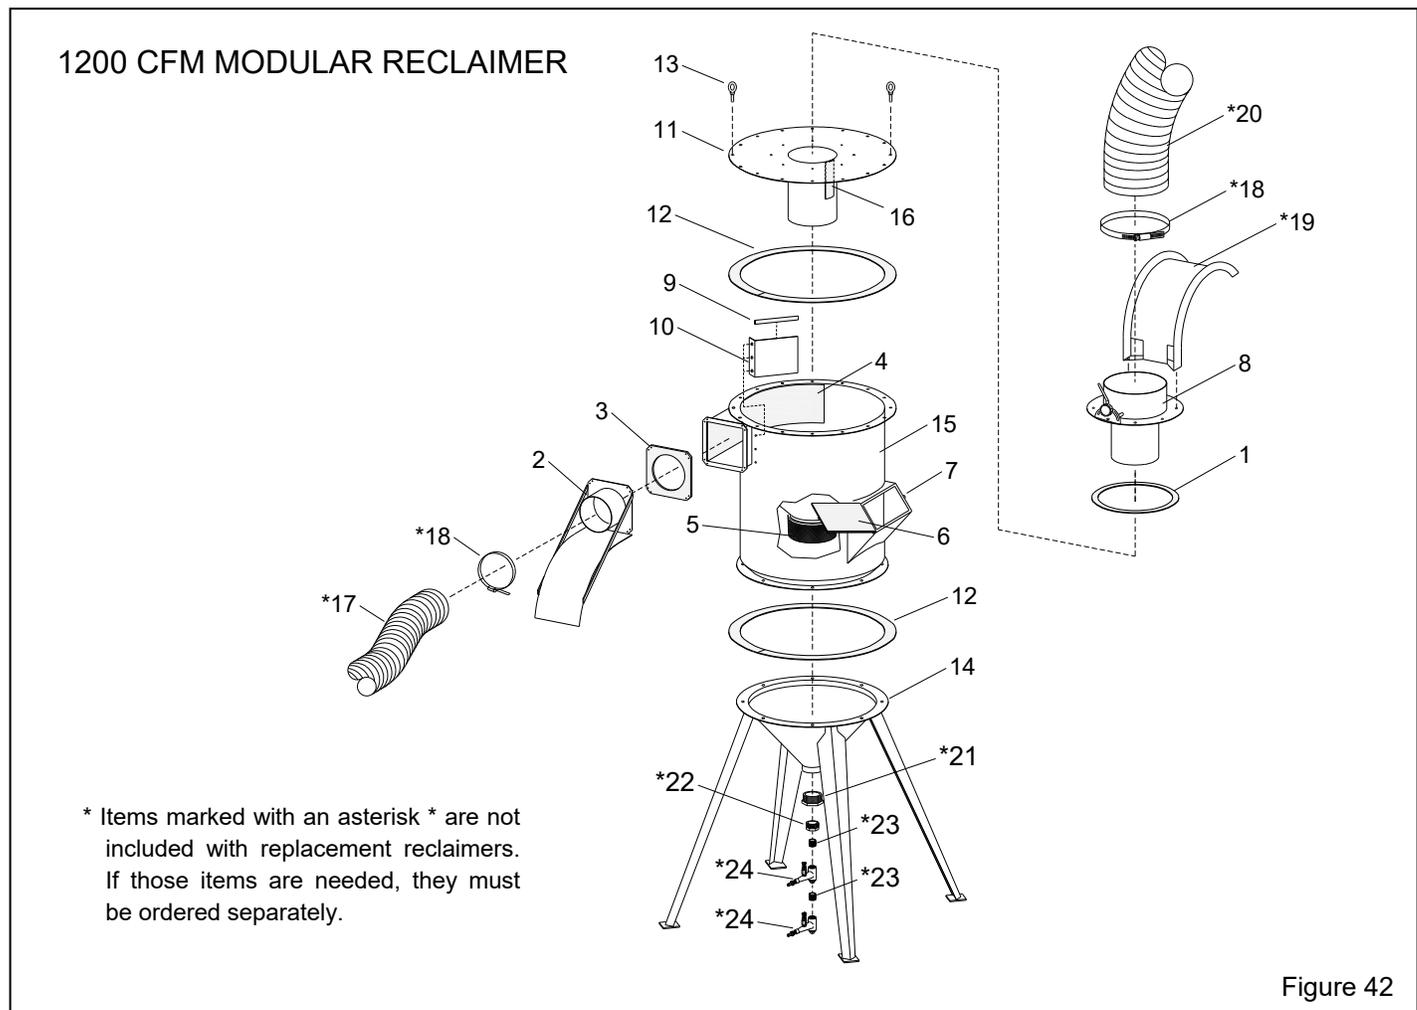

Figure 42
Refer to Figure 42 for 1200 cfm reclaimer replacement parts.
**9.12 1200 CFM Modular Reclaimer Replacement Parts – Figure 42**